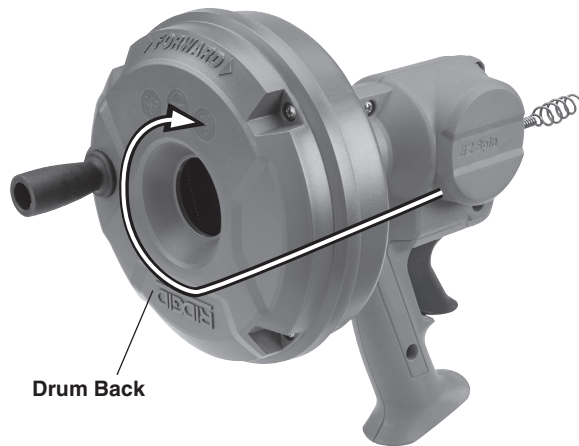

Figure 8 – Cable Orientation
3. Pull back of cable into drum and orient cable in clockwise direction (as seen from the drum back). *See Figure 8.*